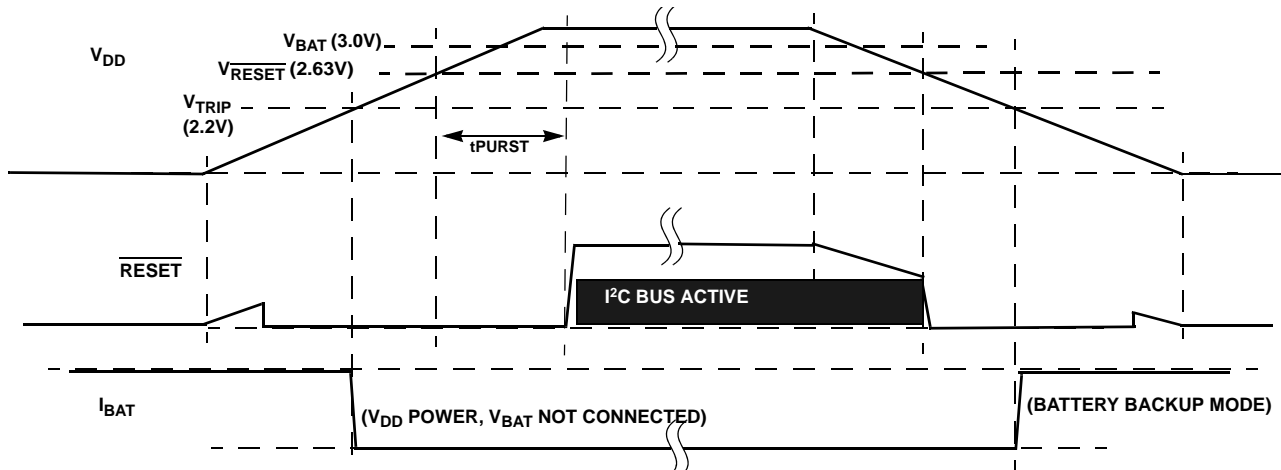

FIGURE 29. EXAMPLE RESET OPERATION IN MODE A OR C
- Mode A - In this mode, selection bits indicate a low V_{DD} switchover combined with I²C operation in battery backup mode. In actuality the V_{DD} will go below V_{RESET} before switching to battery backup, which will disable I²C ANYTIME the device goes into battery backup mode. Regardless of the battery voltage, the I²C will work down to the V_{RESET} voltage (see Figure 29).
- Mode C - In this mode, the selection bits indicate a low V_{DD} switchover combined with no communications in battery backup. Operation is actually identical to Mode A with I²C communications down to $V_{\text{DD}} = V_{\text{RESET}}$, then no communications (see Figure 29).